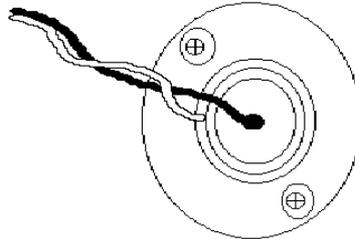

Fig. 7.3.1. Bulb retaining screws.
2. Identify the blown bulb, which will have a broken filament, and may also be blackened. Remove the two retaining screws (fig. 7.3.1), so that it may be released.